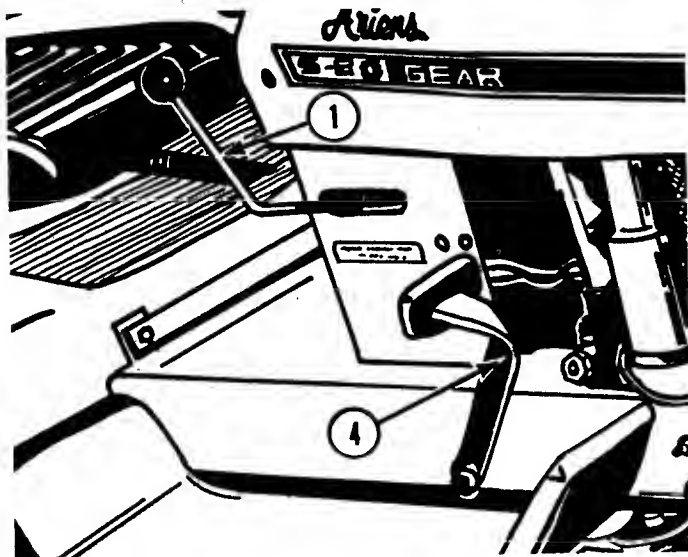

Figure 1
- 1 IMPLEMENT POWER CLUTCH – Figure 1**
- 4 HYDROSTATIC NEUTRALIZER AND BRAKE PEDAL (Hydrostatic Models) – Figure 1**
4. Place implement power clutch lever **1** Figure 1, in the rear (disengaged) position.